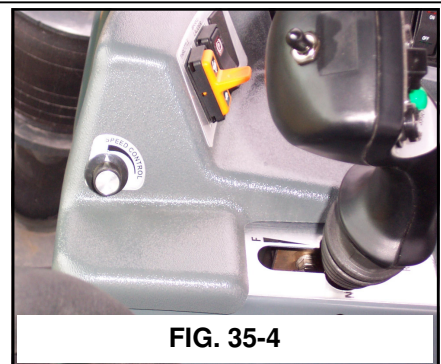

FIG. 35-4
**SPEED CONTROL**— Speed control may be adjusted with the speed control dial (fig. 35-4) This will conveniently help regain consistent field speeds when re-entering a field from the end rows.